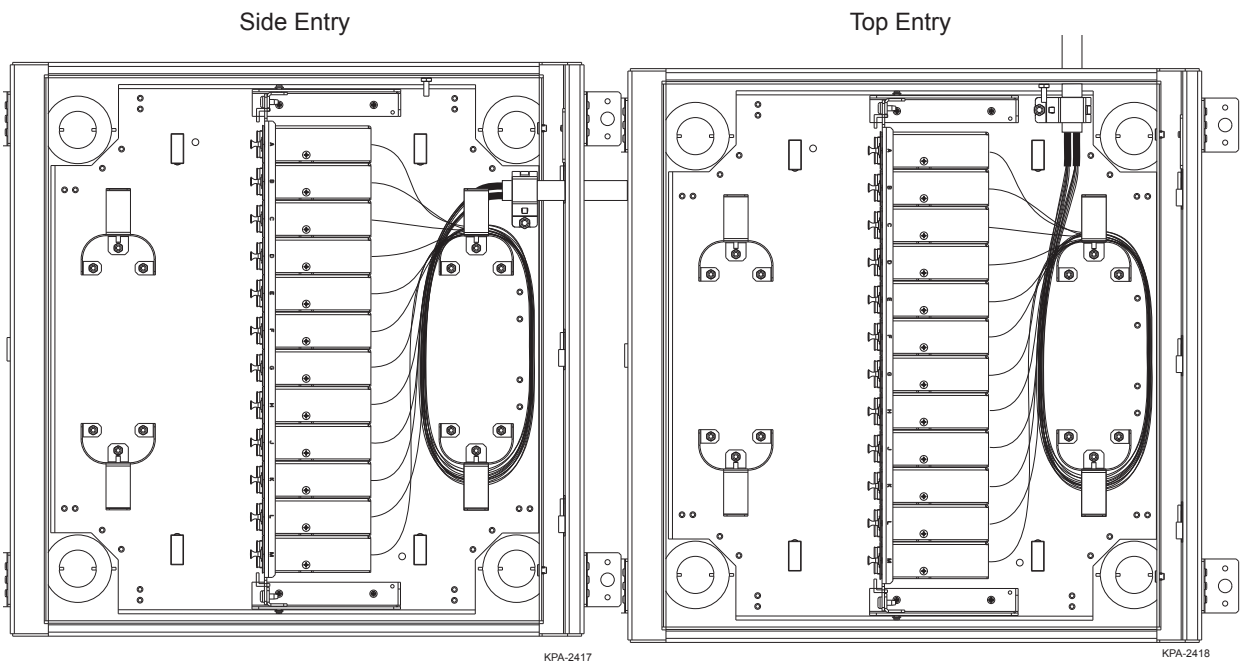

Figure 19
Step 5: When installing cable for the Plug & Play™ system, route to modules as shown in Figure 19.